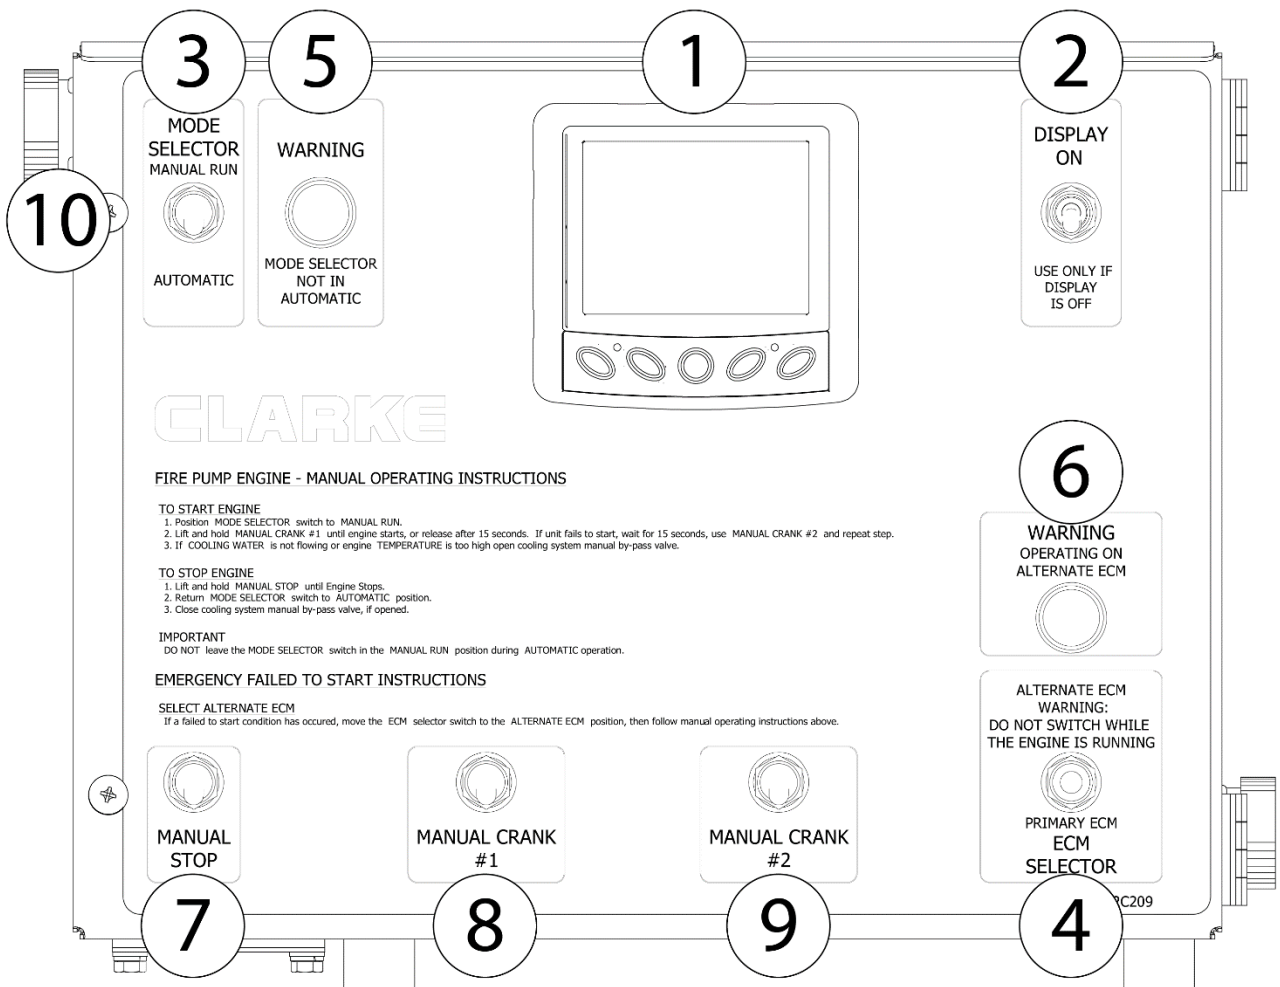

Figure 3-1
3.2.1. To manually start the engine with the instrument panel controls, position the mode selector switch to manual run (Figure 3-1 item 3).
3.2.2. Lift and hold the manual crank #1 switch (Figure 3-1 item 8) until the engine starts, or release after 15 seconds. If the engine fails to start, wait 15 seconds. Lift and hold the manual crank #2 switch (Figure 3-1 item 9) until the engine starts, or release after 15 seconds. Repeat.
- 3.4.2. If engine is started from engine instrument panel, lift and hold the Manual Stop Switch (Figure 3-1 item 7). Close cooling system manual by-pass valve if opened.